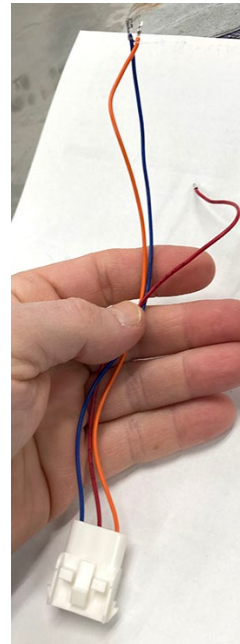
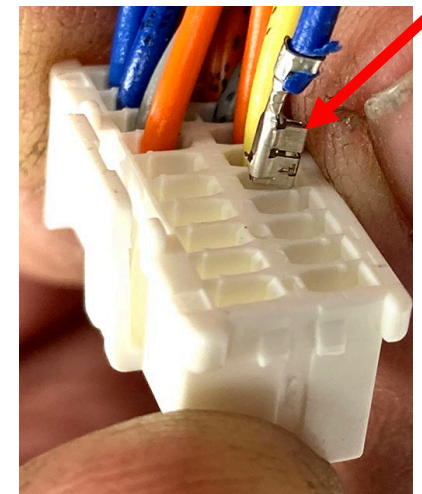

Figure 24
Figure 25
- h. Using the 3-pin harness removed in the previous step (see Figure 24), insert the blue wire below the yellow wire, on the J1 vertical connector attached to the SIB board (see Figures 25 and 26). **(NOTE:**
- Orient the flag of the wire terminal towards the outer edge of the plastic connector (see Figure 25).** Gently pull